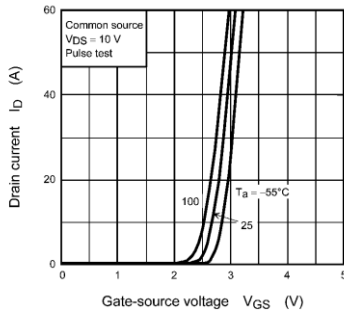
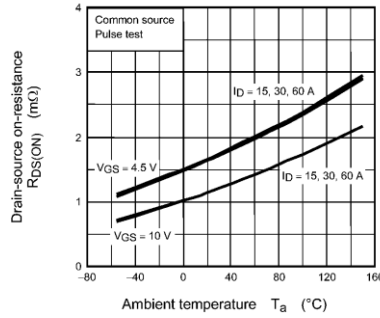
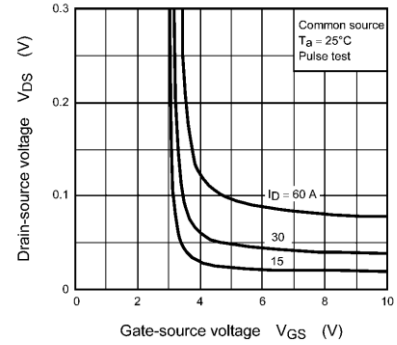

Figure 1.2 I_D - V_{GS} Curve:
Figure 1.3 $R_{DS(ON)}$ -Temperature Curves
Figure 1.4 V_{DS} - V_{GS} Curves
- (2) MOSFETs turn on when the gate-source voltage V_{GS} exceeds their threshold voltage V_{th} (Figure 1.2). It is therefore necessary to choose a value for V_{GS} that is sufficiently higher than V_{th} . There is a tendency that the higher the V_{GS} , the lower the $R_{DS(ON)}$ value becomes. Also, the higher the temperature, the higher the $R_{DS(ON)}$ value becomes (Figure 1.3). In order to reduce loss, it is important to increase V_{GS} in order to minimize the resistance of the device at the current level at which it is used (Figure 1.4). Conversely, a high V_{GS} value increases the drive loss at light loads for high frequency switching. Selecting the optimal gate voltage is therefore critical.
- (3) Generally, it is recommended to drive the gate of many power MOSFET at a V_{GS} of 10 V. Toshiba's product portfolio also includes power MOSFETs designed for gate drive at a V_{GS} of 4.5 V. Select the power MOSFET that best suits your equipment requirements.